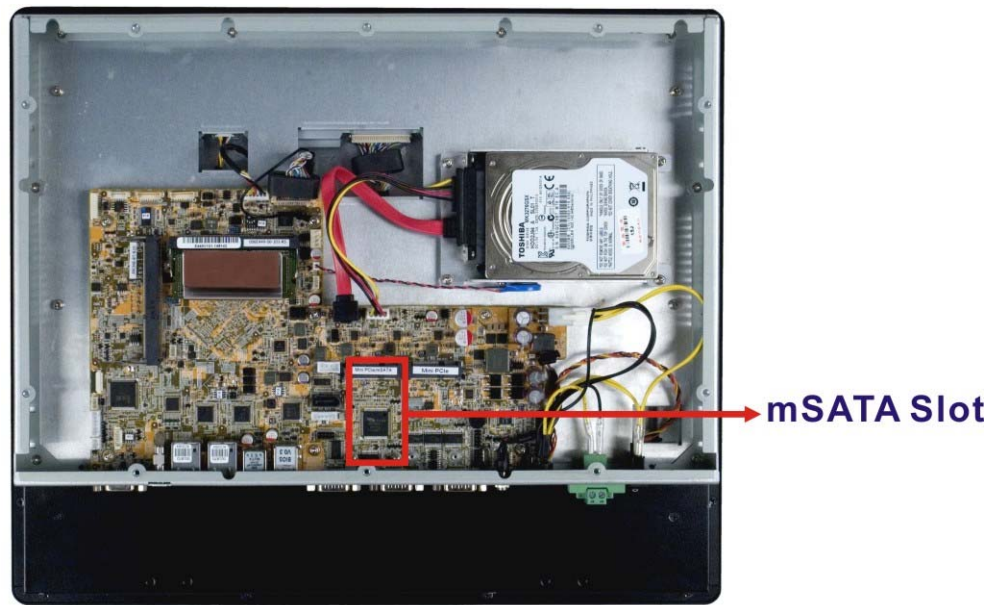

Figure 3-8: PCIe Mini Card Slot which supports mSATA
Step 2: Locate the PCIe Mini card slot which supports mSATA. The location of the PCIe Mini card slot is shown in **Figure 3-8**.